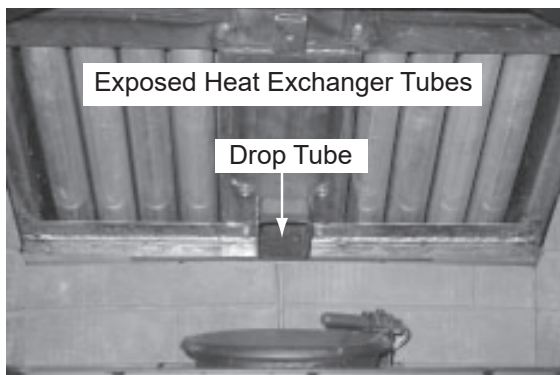

Figure 21.1
- a. Use a Shop Vac to vacuum any fly ash and soot from the heat exchanger tubes and firebox area. **Figure 21.1.**